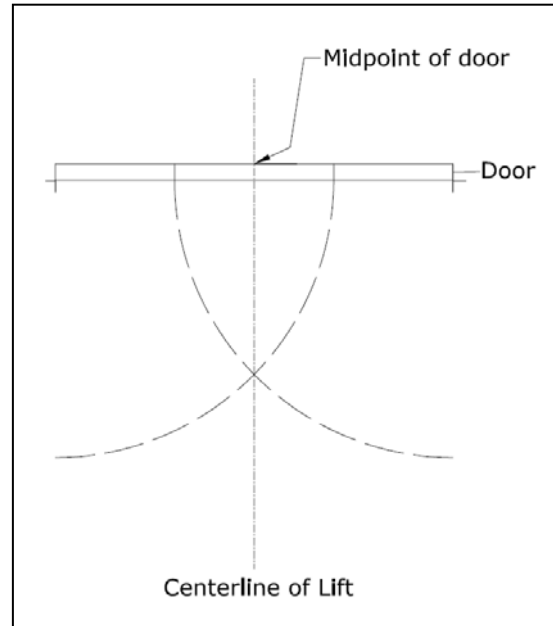

Figure 3. Chalk line
5.2.6 Measure the specified distance (126") to draw a second chalk line at 90° for locating the lift towers. Refer to Figure 3.